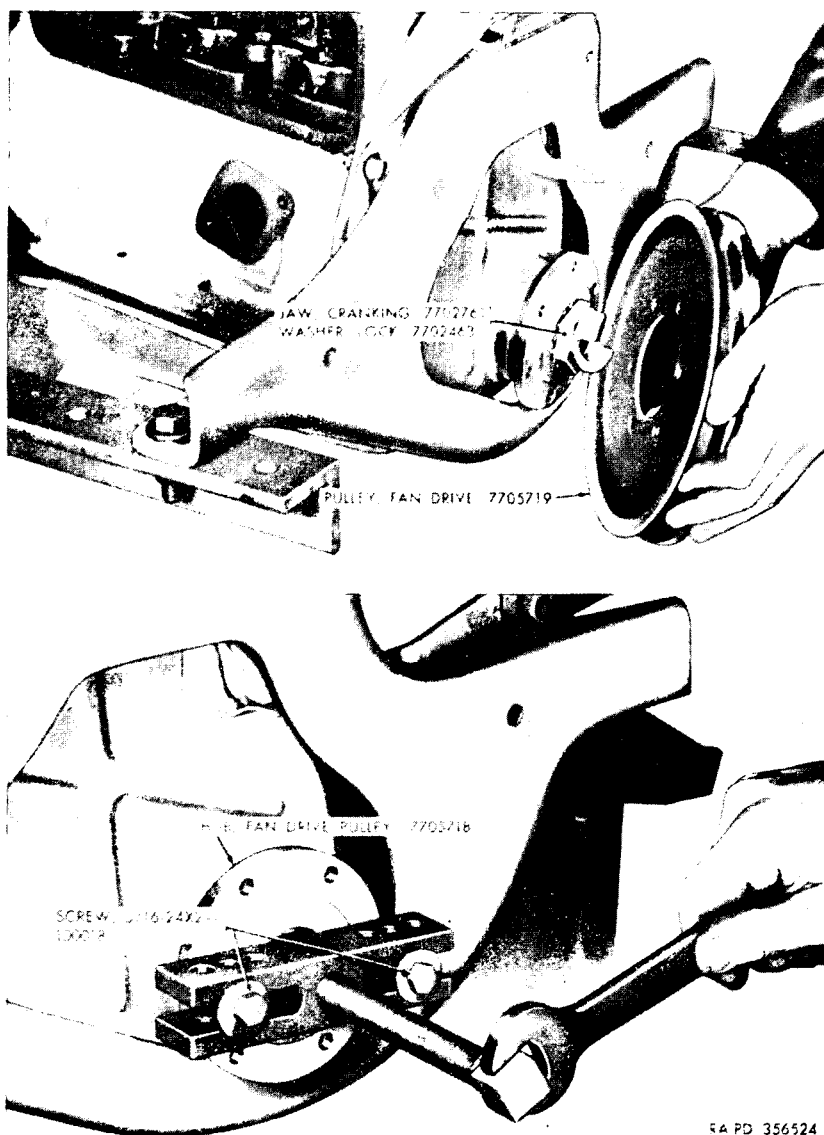
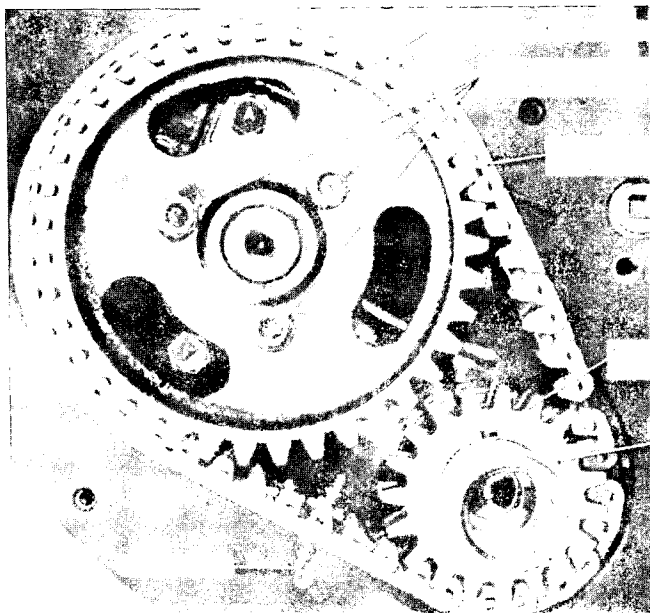

Figure 31. Removing fan drive pulley and hub.
Figure 32. Testing slack in timing chain.
- (1) Remove the fan drive pulley (fig. 31). Remove the cranking jaw with a $1\frac{1}{16}$ -inch socket wrench. Then, remove the fan drive pulley hub (fig. 31) with universal gear puller and two $\frac{5}{16}$ -24 x 2 screws.
- (2) Remove the engine front support plate.
- (3) Remove the timing chain case cover.
- (4) Turn the crankshaft clockwise so that the top span of the chain is tight. If the amount of slack in the lower span is greater than three-quarters of an inch, replace the timing chain (fig. 32).
- (5) Remove the camshaft sprocket and timing chain.
- (6) Remove camshaft sprocket oil nozzle, clip, and nozzle clip screw and washer.
- (7) Remove timing chain case cover plate and gasket.
- (8) Remove oil pan front seal plate and front oil seals.